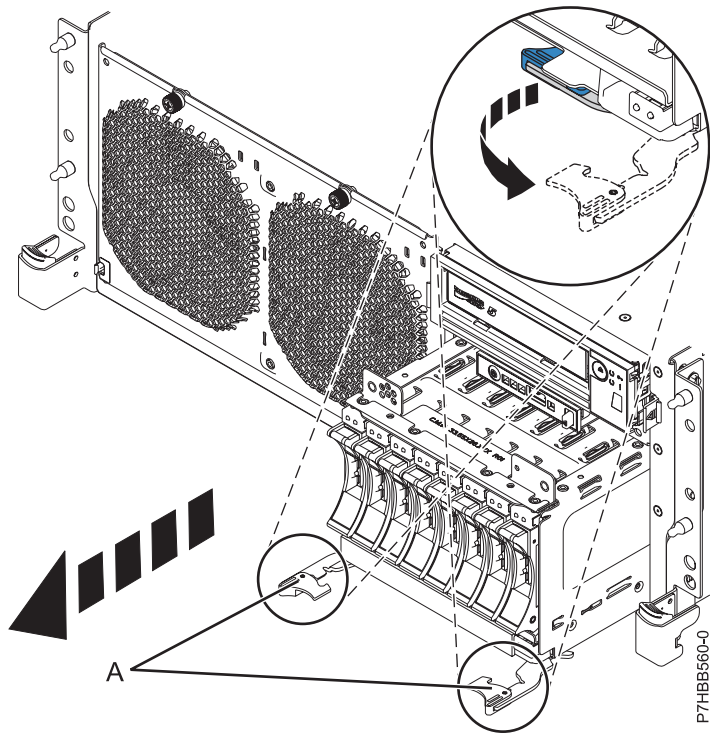
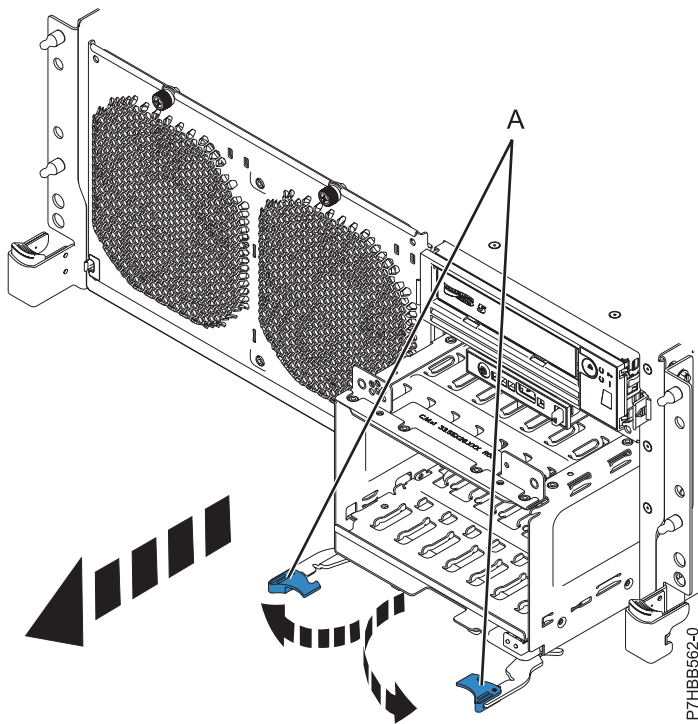

Figure 24. Removing the backplane that is populated with disk drives
Figure 25. Removing the backplane that is not populated with disk drives
14. Unlock the disk drive backplane by pulling the handles (A) open from the center of the backplane as shown in Figure 24 on page 49 and Figure 25 on page 49.